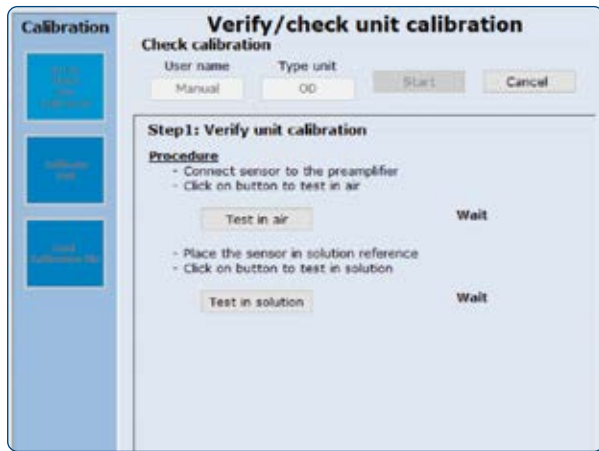

Figure 53: Testing the pre-amplifier calibration.
5. Make sure that the light path is clean, dust-free and placed in the dark. Press Measure in air to run the Verification procedure (Figure 53).
6. Insert the sensor directly in the bottle of the Val/Cal solution. Make sure that the light path is well immersed and placed in the dark. Press Measure in solution (Figure 53). The successful Verification is indicated. If this procedure fails it is recommended to perform a calibration (see Chapter 10.6.2).
5. Make sure that the light path is clean, dust-free and placed in the dark. Press Measure in air to proceed with the Calibration procedure (Figure 53).
6. Insert the sensor directly in the bottle of the Val/Cal solution. Make sure that the light path is well immersed and placed in the dark. Press Measure in solution (Figure 53).